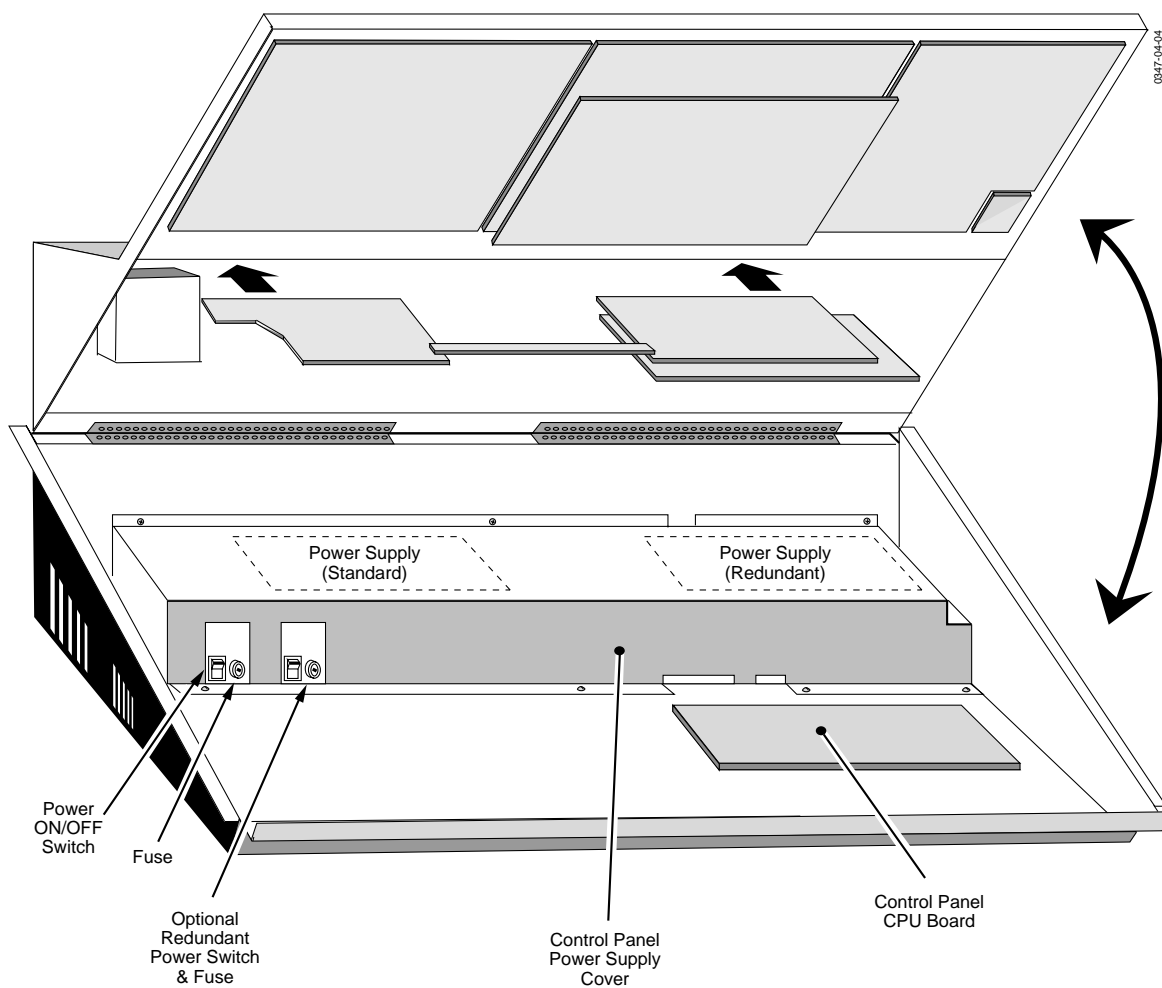

Figure 4-18. Model 4000-2 Control Panel AC Power Switch Location.
1. Open the Control Panel and turn the AC power switch(s) on the left front of the enclosure to the OFF (Ø) position. See Figure 4-18.